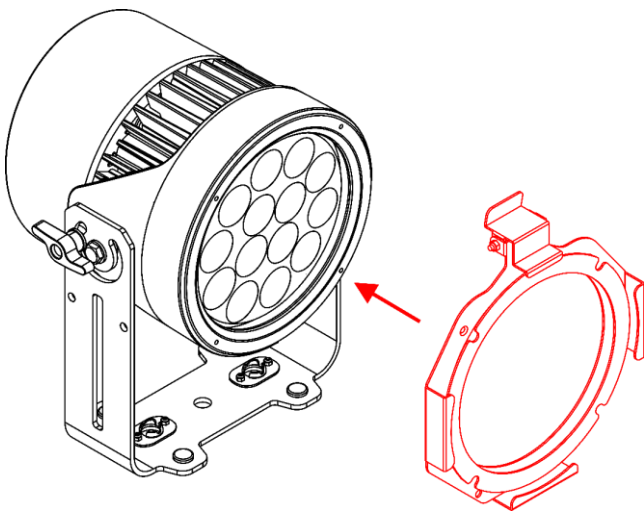

Fig. 07
- 01) Put the Accessory Holder on the lens of the Raccoon (Fig. 07).